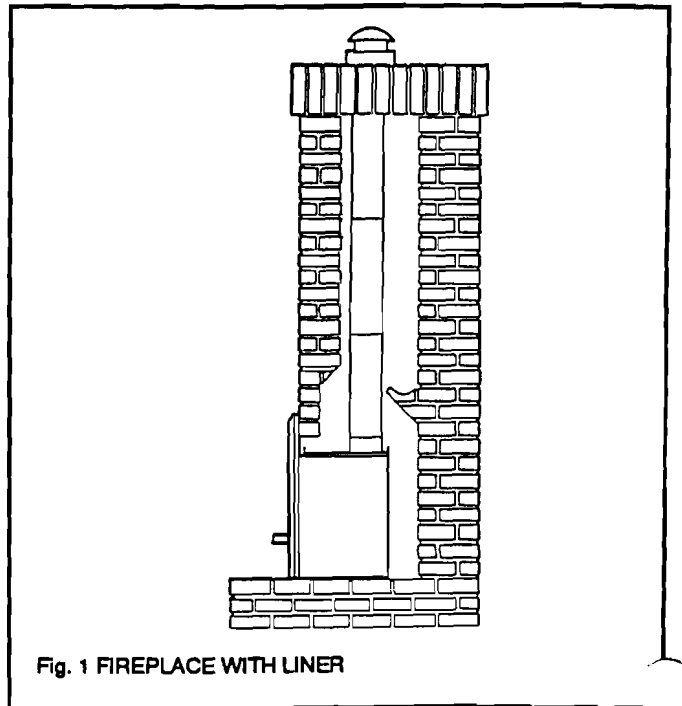

Fig. 1 FIREPLACE WITH LINER
- i) As an insert in an existing solid fuel type fireplace with a chimney and 4" dia. liner (see fig. 1).